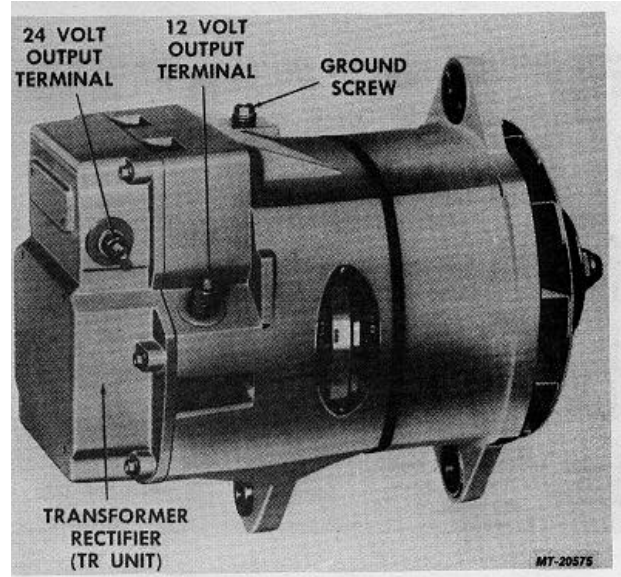

Fig. 2 30-SI/TR Series Alternator
The 30-SI/TR series (Figures 2 and 4) is a standard 30-SI with a transformer-rectifier (TR) unit mounted on the end frame. The TR unit provides a separate voltage to charge a cranking battery. The cranking ("C") battery is connected in series with the system ("S") battery to provide 24 volt cranking. When the engine is running, the cranking battery is charged at a low rate to maintain its full state of charge. The vehicle electrical system, except for the cranking motor, is 12 volt. The 30-SI/TR eliminates the need for a series-parallel switch and associated wiring.